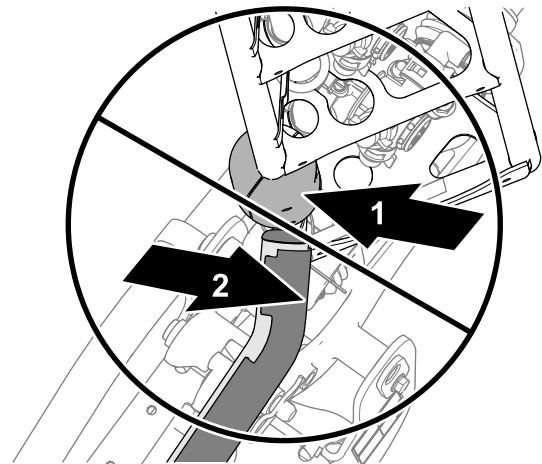
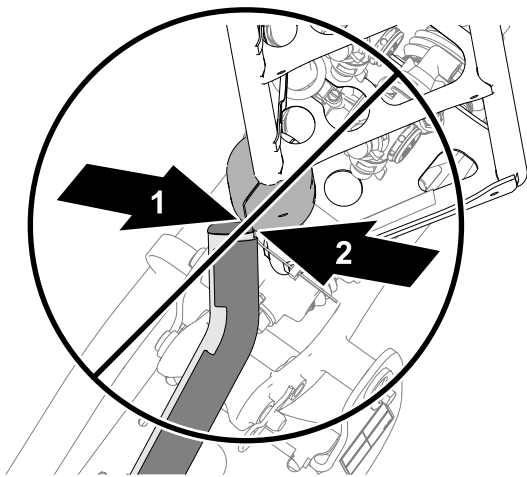
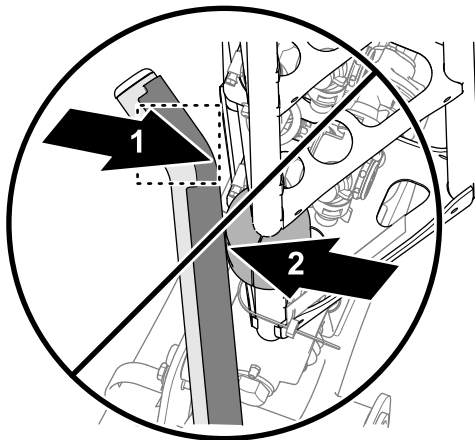

Figure 7
Figure 8
Figure 9
- If either upper cradle tube is misaligned with the slide block as shown in Figure 7, Figure 8, or Figure 9, adjust the cradle position; refer to Aligning the Cradles to the Outer Booms \(page 80\).